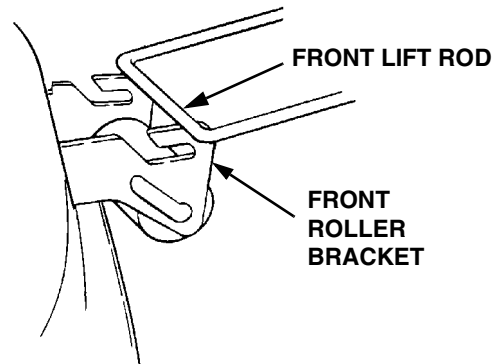

Figure 45
8. Raise the tractor implement lift handle to its highest setting. Roll the mower deck forward until the front lift rod slides up and out of the openings of both front roller bracket slots. Manually lift the rod out of the slots if necessary (Refer to Figure 45).
9. Raise the front lift rod upward and slide the mower deck rearward. Lower the front lift rod so it rests on the front roller bracket of the deck, forward of the slots (See Figure 45).